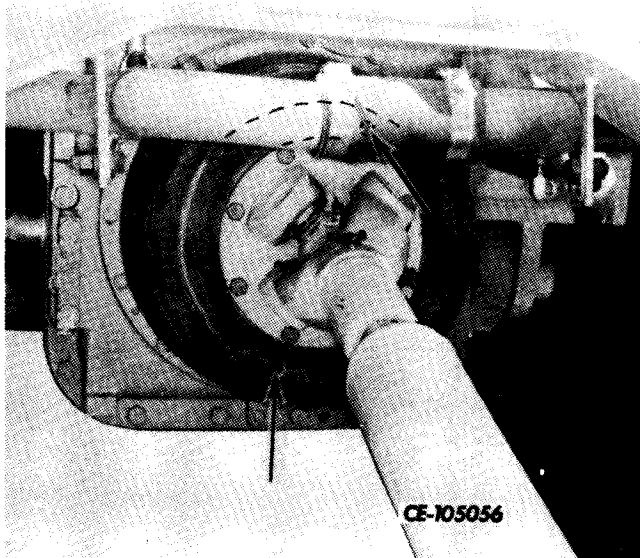

Fig. 21. Aligning the Brake Drum Hole
1. Move the machine so one of the holes (Fig. 21) in the brake drum is in line with the adjusting screw star wheel.
3. Insert a screwdriver, or similar tool, through the brake drum hole (Fig. 21). Turn the adjusting screw star wheel until the brake linings are tight against the brake drum.